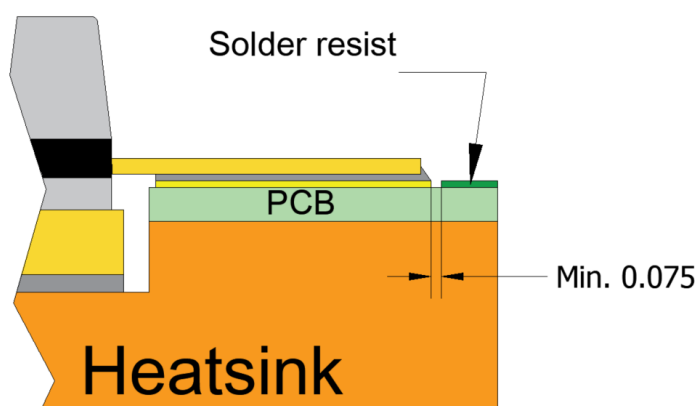

Figure 13. NSMD cross section of a straight leads package
- Non solder mask defined (NSMD) the solder mask openings are larger than the exposed metal pad (Figure 13).